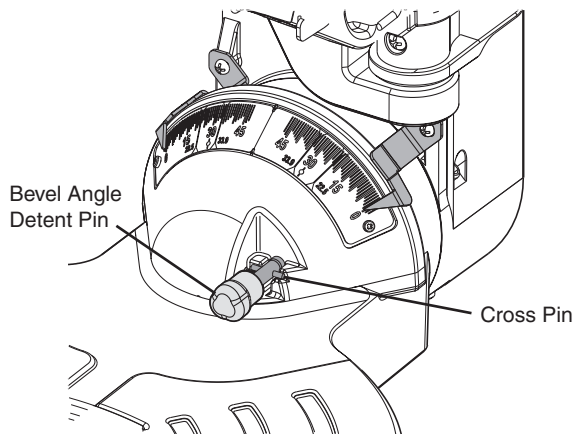

Figure 52. Cross Pin Disengaged for Full Range of Bevel Cuts
- The saw has a bevel angle detent pin which can only be engaged at 33.9° left or right - this is the bevel angle required when cutting 38° “spring angle” crown molding flat on the table. NOTE: If the bevel detent pin automatically engages at 33.9° and prevents tilting the saw to another angle, simply pull it to the front and rotate its cross pin 1/4 turn so it rests in the disengaged position. If pin is sticking in, tilt and rock saw head side to side as you pull on it (see Figure 52).